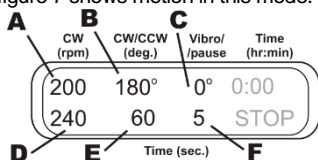
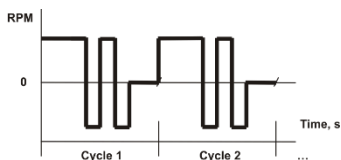

Figure 6.
Figure 7.
- 6.9.3. **Rotational + Reciprocal motions + Pause.** Set the speed (40-1000 rpm, fig. 6/A) and time (1-250 s, fig. 6/D) of rotational motion. Set the angle (30-360°, fig. 6/B) and time (1-250 s, fig. 6/E) of reciprocal motion. Reciprocal and rotational motions have the same speed. Set the time of vibro motion to zero (fig. 6/C). Set the time of vibro motion (1-5 s, fig. 6/F) - this is the duration of pause. Graph in figure 7 shows motion in this mode.